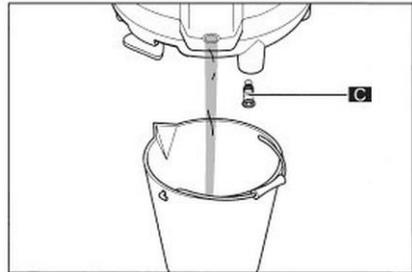

Fig. 45
6. Undo the drain screw (C) of the water tank using a coin or a hex wrench.
7. Pull the drain screw (C) off and wait until water completely flows out of the water tank (Fig. 45).